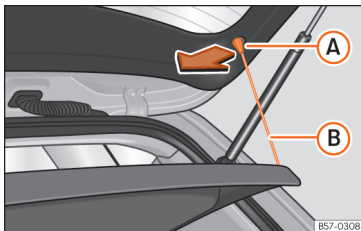

Fig. 170 In the boot: removing and installing the shelf.
- Detach the cord loops »» **Fig. 170 (A)** from their hooks **(A)**.
- Hook the loops »» **Fig. 170 (B)** to the rear lid.